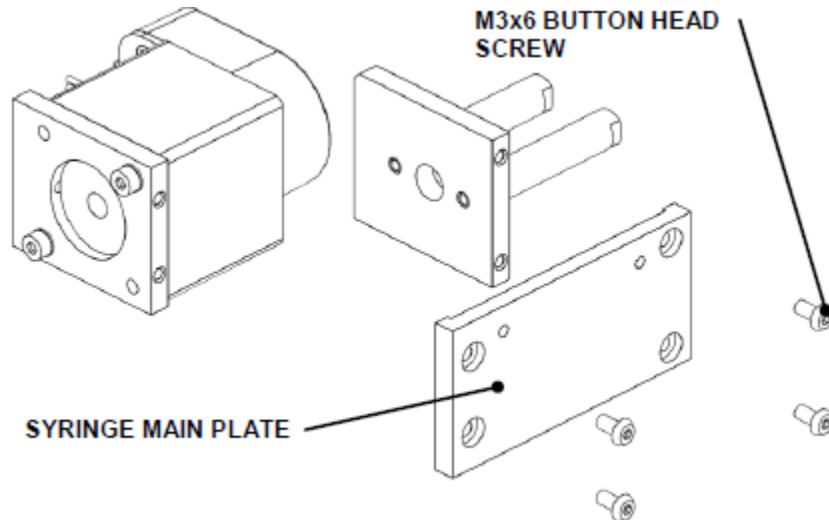

Figure U-20: Removal of Back Guide Bar Assembly (item with two rods) and the Syringe Main Plate
6. Remove Back Guide Bar Assembly (item with two rods) and the Syringe Main Plate (Figure U-20) from the Syringe Main Plate.
6. Fix the previous sub-assemblies on the SP Syringe Main Plate with four M3x6 Button Head Screws using Loctite 222 (Figure U-20).